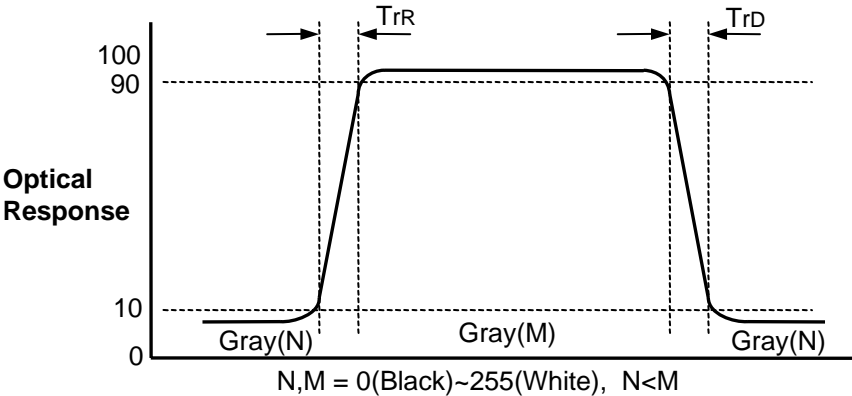

FIG.3 Response Time
4. Response time is the time required for the display to transition from G(N) to G(M) (Rise Time,  $Tr_R$ ) and from G(M) to G(N) (Decay Time,  $Tr_D$ ). For additional information see the FIG. 3. (N<M)